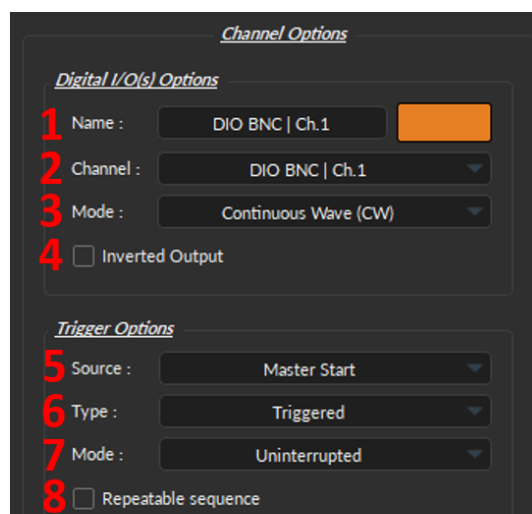
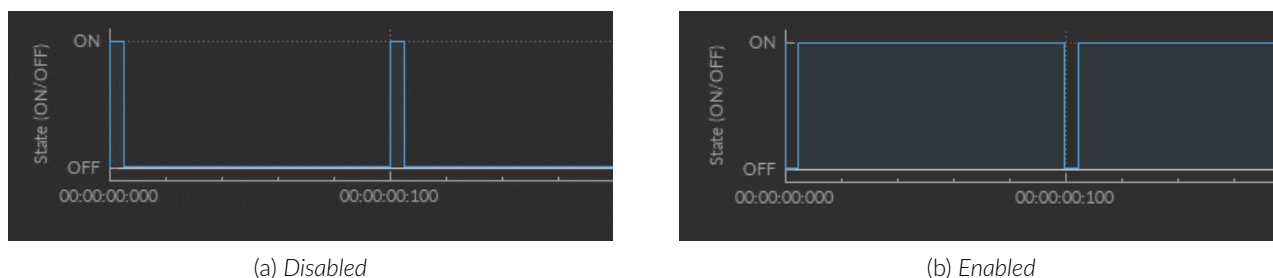

Figure 12.11: Digital I/O, Channel Options
Figure 12.13: Inverted Output
1. The **Channel Name** textbox (Fig. 12.11, 1) is used to give the new channel a more intuitive / experiment-relevant label. The **Channel Name** is used in the **Graph List** to identify the channel. And the **Color Selector** specifies the trace color used for the channel in the **Graph View**.
2. The **Channel** (Fig. 12.11, 2) identifies the channels available to create a Digital I/O. The channel can be changed by selecting a new one from the drop-down list. Each numbered channel on the physical FluoPulse™ corresponds to the same number of the digital channel within the software.
3. The **Mode** (Fig. 12.11, 3) identifies the type of signal sent (for output channels) or the way the signal is measured (for input channels). Three modes are available:
4. The **Inverted Output** checkbox (Fig. 12.11, 4), when enabled, will convert every 0 to 1 and 1 to 0, such as in Fig. 12.13.
5. The **Source** trigger option (Fig. 12.11, 5) specifies the element that will set off the digital output. Two options are available:
6. The **Type** (Fig. 12.11, 6) defines how the trigger activates a sequence. This includes input sequences, which can be triggered/gated by an outside source.
7. The **Mode** (Fig. 12.11, 7) defines how the sequence will run if a second TTL pulse is received before the sequence ends. This includes input sequences, which can be triggered/gated by an outside source. Four options are available:
8. The **Repeatable sequence** checkbox (Fig. 12.11, 8), when enabled, will run the sequence when additional TTL pulses are received (Fig. 12.15).
The parameters contained in the **Sequence Options** depend on the **Channel Mode** (selected in **Channel Options**, Fig. 12.11), as following: